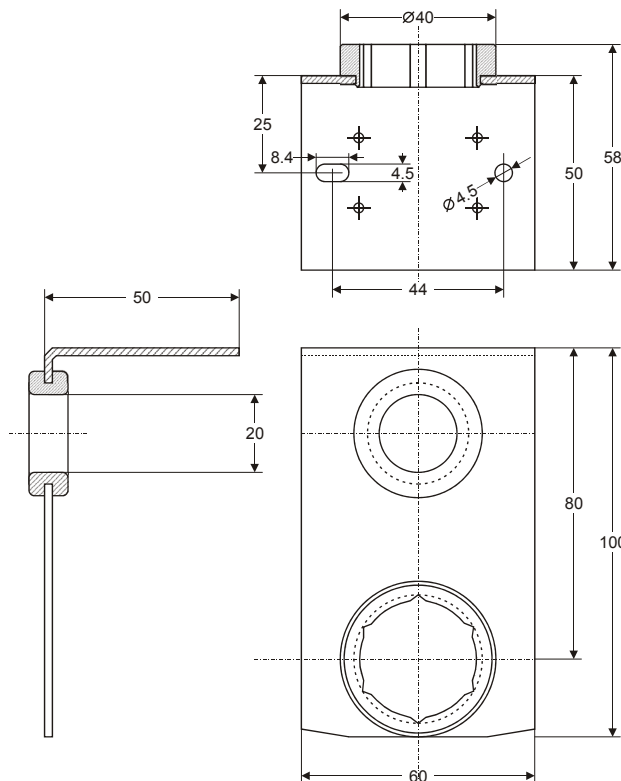

Fig. 65. AST1 wall attachment set
- AST1 wall attachment set, see Fig. 65.